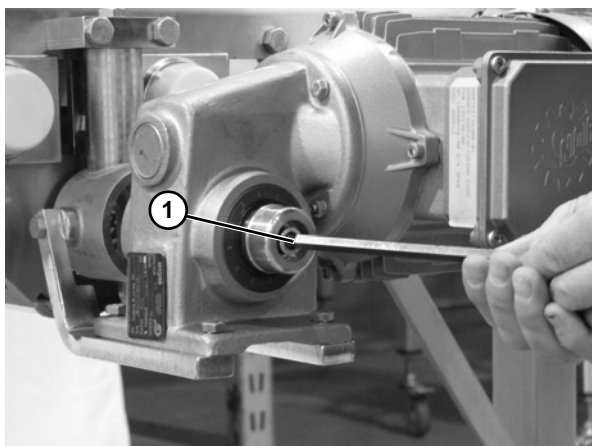

Figure 25
6. Remove the plastic cap on the end of the motor and remove the socket head screw (Figure 25, item 1) and the bore plug.
7. Slide the gearmotor off of the drive spindle (Figure 25).